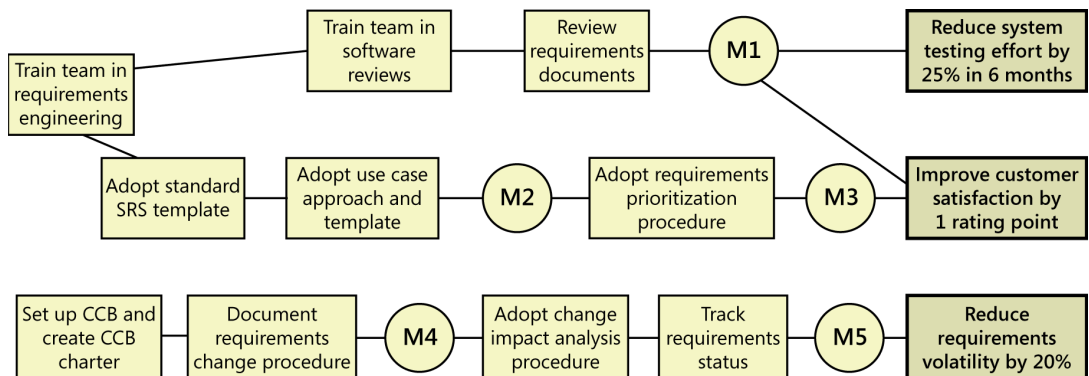

FIGURE 31-9 Sample requirements process improvement road map.
Because every situation is different, there is no one-size-fits-all road map. Formulaic approaches to process improvement don't replace careful thinking, good judgment, and common sense. Figure 31-9 illustrates one organization's road map for improving its requirements processes. The desired business goals are shown (in simplified form) in the boxes on the right side of the figure, and the major improvement activities are shown in the other boxes. The circles indicate intermediate milestones along the paths toward the business goals. *M1* means *milestone 1*. Implement each threaded set of improvement activities from left to right. After you've created a road map, give ownership of each milestone to an individual, who can then write an action plan for achieving that milestone. Then turn those action plans into actions!
- Based on the two preceding steps, develop a requirements process improvement road map patterned after that shown in Figure 31-9. Persuade someone in your organization to take responsibility for each milestone. Have each milestone owner use the template in Figure 31-6 to write an action plan for implementing the recommendations leading up to his or her milestone. Track the progress of the action items in the plan as they are implemented.